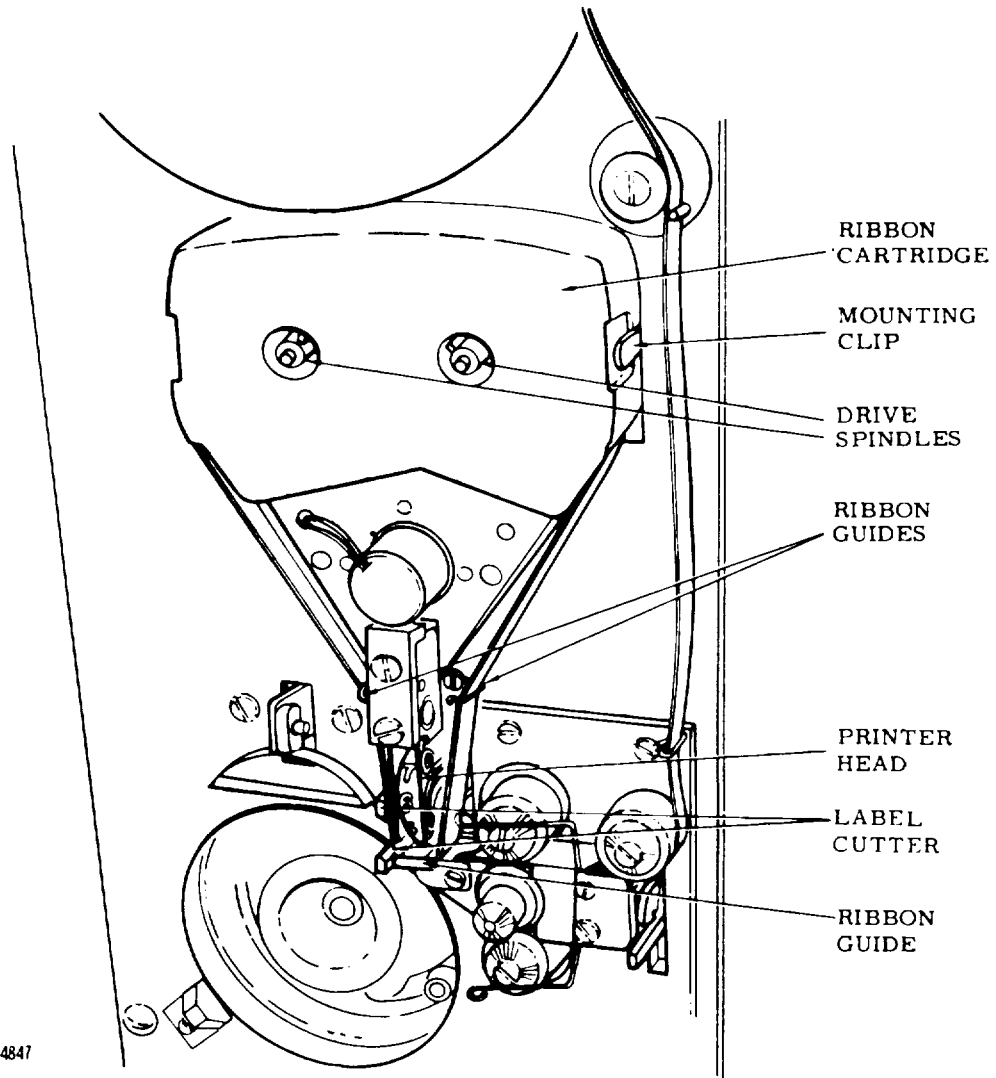

Figure 4-21. Loading Ribbon Cartridge
**4-104. LOADING RIBBON CARTRIDGE** (Figure 4-21). Load ribbon cartridge on U7483 Printer for initial assembly and as required thereafter.